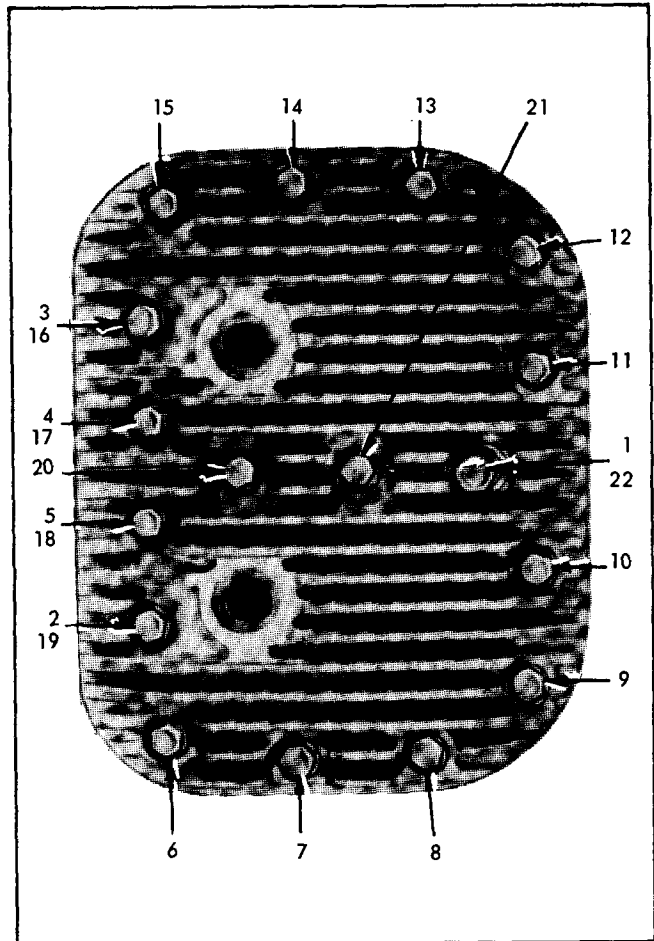

Fig. 21
*In reassembly;* remove all carbon and lead deposits from combustion chamber. It is recommended that new cylinder head gaskets be used as the old gaskets will be compressed and hard and may not seal properly. Use a mixture of graphite and oil on the cylinder head screws to prevent them from rusting tight against the cylinder block. Tighten cylinder head screws to **24 ft. lbs. torque** in the sequence shown in *Fig. 21*. After complete assembly and engine is run in, re-torque head screws.